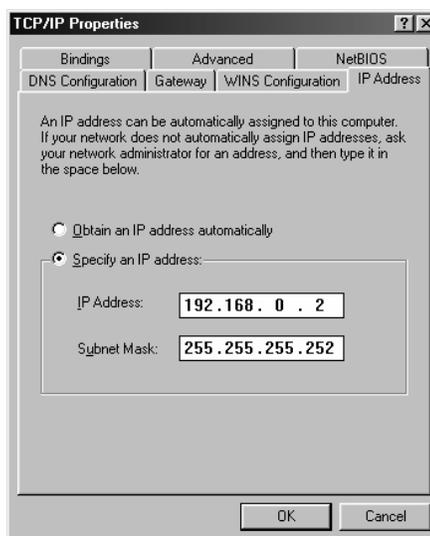

Figure 114: TCP/IP Properties
3. Select the TCP/IP entry associated with the installer laptop's Network Interface Card (NIC) and click **Properties**. The TCP/IP Properties window appears. See Figure 114.